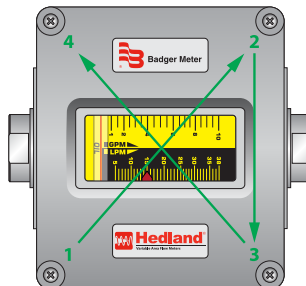

Figure 6: Cover screw tightening sequence
6. Install the cover gasket and front cover and secure with screws. To properly seat the cover gasket, tighten cover screws in a crisscross pattern (see Figure 6).
See “Figure 6: Cover screw tightening sequence” on page 8.
12. Reinstall the cone/spider plate assembly and retaining spring, and secure with the inlet end fitting. If the configuration has an aluminum enclosure, secure the lid and ensure proper seating of the cover gasket by tightening the screws in a crisscross pattern. See "Figure 6: Cover screw tightening sequence" on page 8.